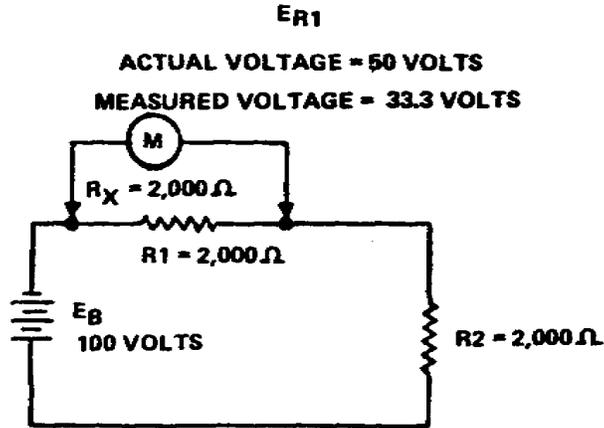

Figure 1-7. Error in voltmeter readings
(2) The accuracy of any measurement made with a voltmeter depends, for the most part, upon the relationship between the total resistance in the meter circuit and the value of resistance across which the voltage is measured. This fact can be seen from a study of the circuit in Figure 1-7, showing both the actual voltage and the measured voltage as well as percentage of error. Observe that the voltage measured is two-thirds the actual voltage across  $R_M$ , an error of 33.3 percent, since the meter resistance is only one-half the value of the total resistance in the circuit.